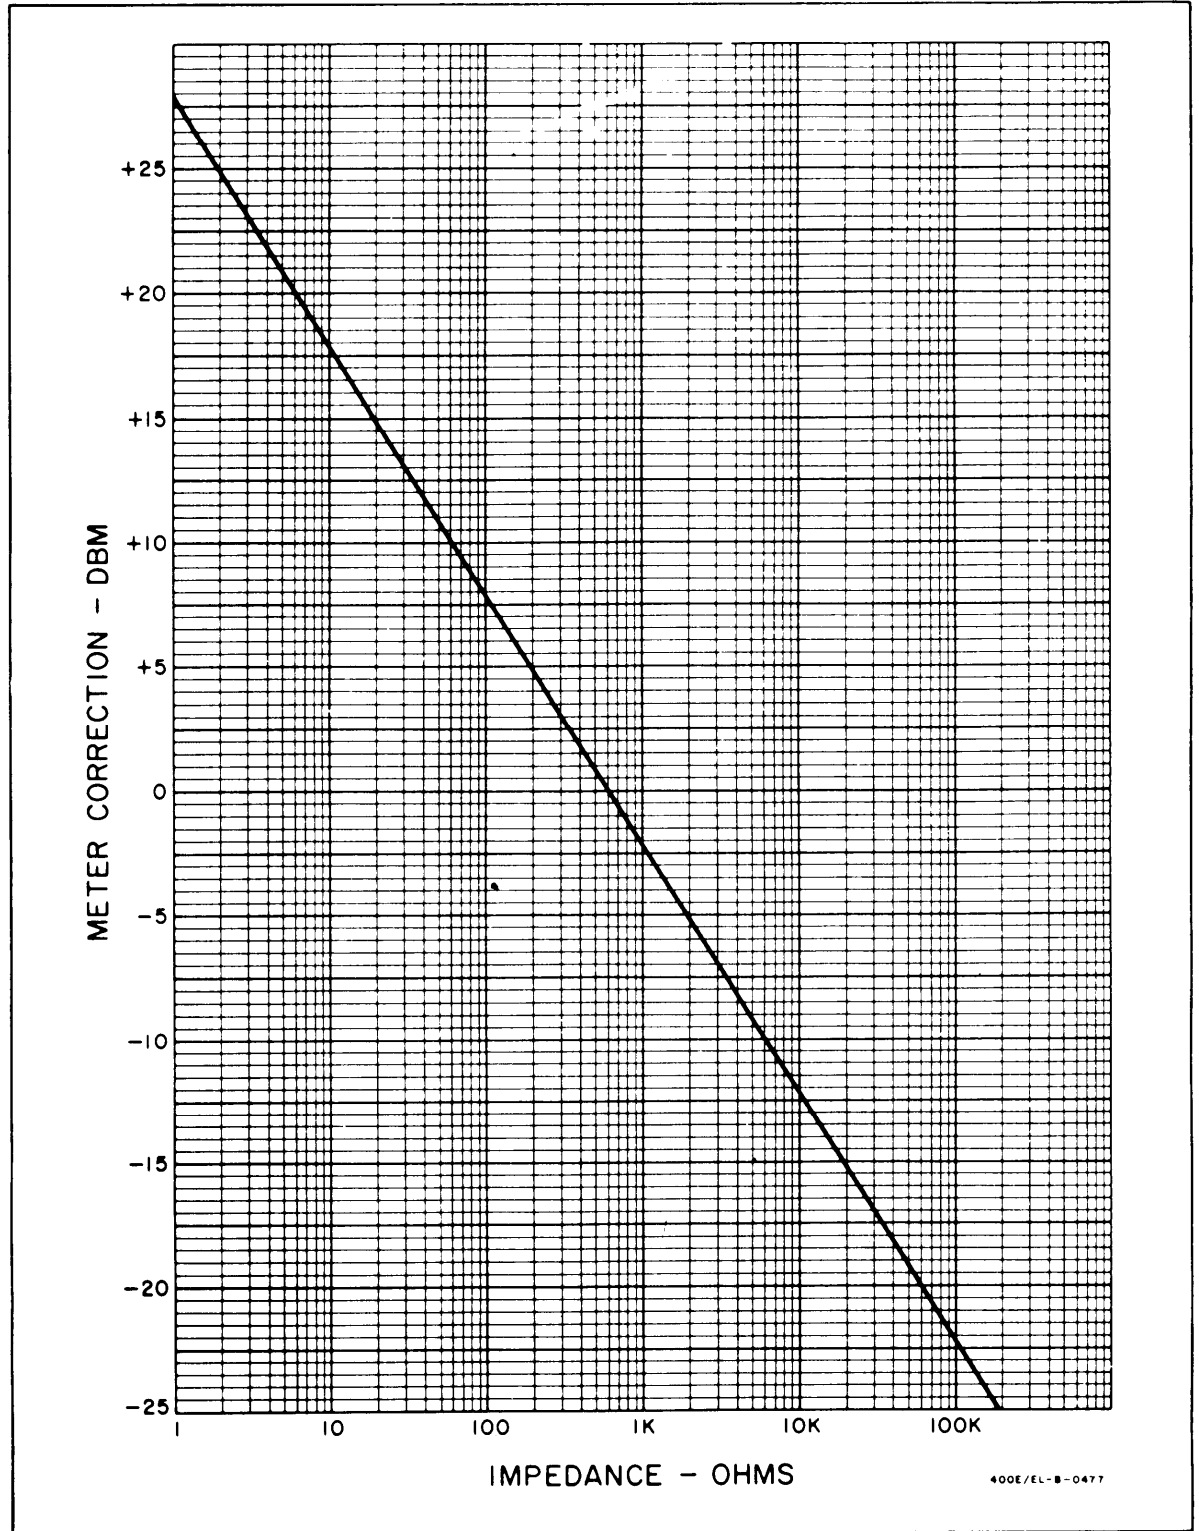

Figure 3-3. Impedance Correction Graph
- c. To convert a db reading to dbm, use the Impedance Correction Graph (Figure 3-3). For example: To convert a +30 db reading made across 50  $\Omega$  to dbm, locate the load impedance on the bottom of the graph. Follow the impedance line to the heavy black line and read the meter correction at that point. The correction for 50  $\Omega$  is +10.5 dbm, and the corrected reading is +40.5 dbm.